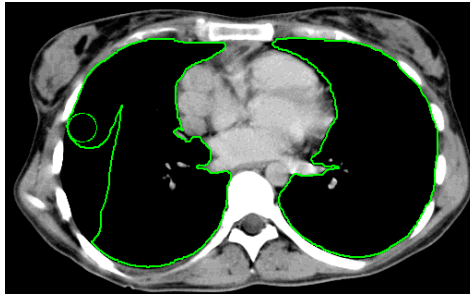

Figure 239 – Adding an area to a contour by the Brush drawing tool
5. To add/remove a contour, press and hold down the left mouse button and move the brush cursor to create the desired shape (see Figure 239).